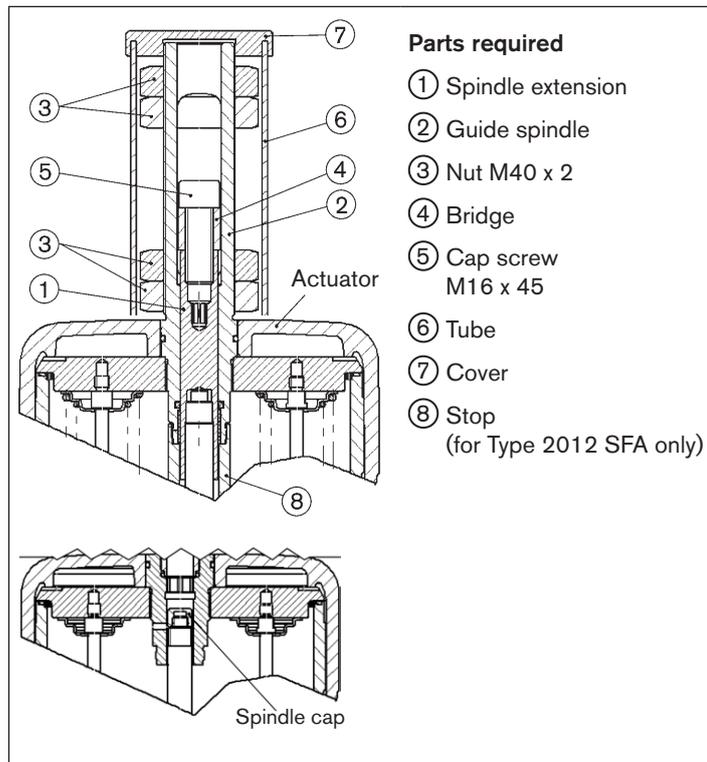

Fig. 8: Actuator size 175, 225 (Ø in mm)
- Screw out position indicator/spindle cap (yellow screw cap; see "Fig. 8") by hand.